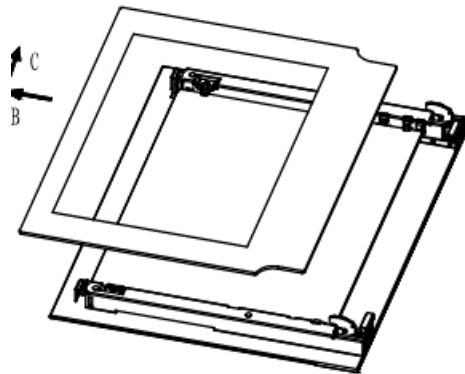

Fig.2
2. Retire el cristal interior lentamente (Fig. 2)